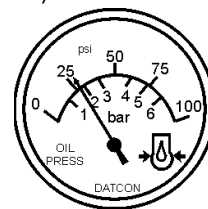

Figure 52. Oil Pressure Gauge
11. The engine oil pressure gauge (Figure 52) will indicate the oil pressure of the engine. Under normal operating conditions the oil pressure is approximately 42 to 71 psi. (290~490 kPa).